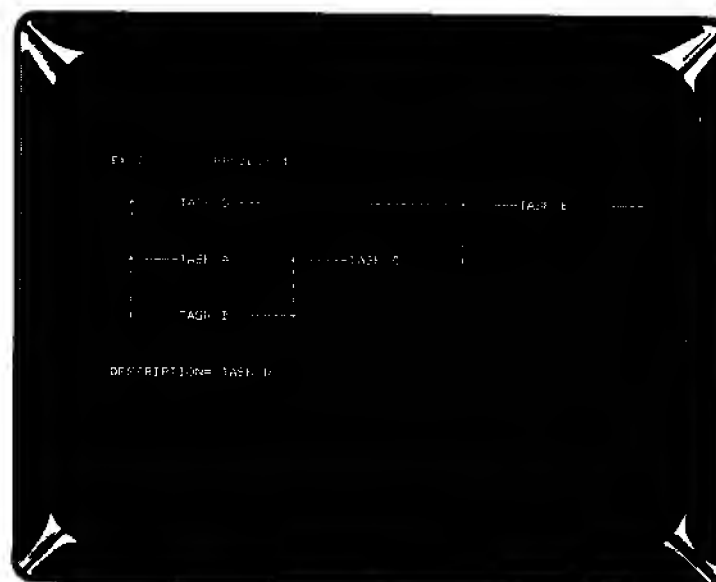

Figure 14.
Type **[Z][S][D]** to display the task descriptions. If Task D is extended beyond the time required to complete the tasks now on the critical path, a new critical path will be formed. Extending Task D to 28 days produces the new PERT chart shown in Figure 14.
9. Type **/ L P** to display the PERT chart shown in Figure 14. Task D, with a duration of 28 days, is now on the critical path.